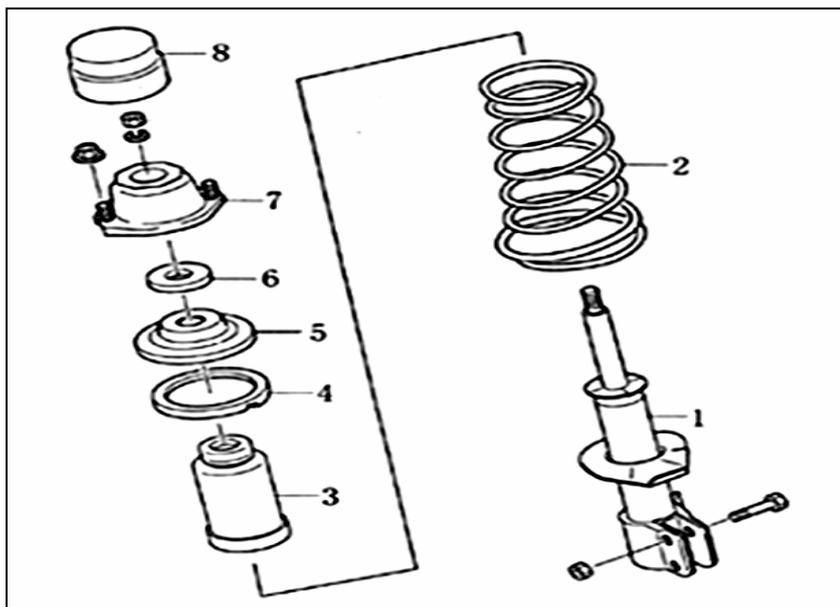
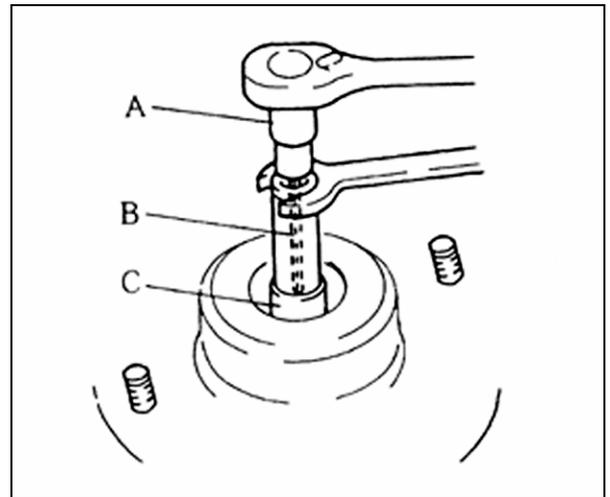

FIG.14-9
FIG .14-13
**2 STRUT ASSEMBLY (FIG.14-9)**
- (2) Loosen the self-locking nut by using the special tool (A), (B), (C)(FIG.14-13), disassemble the part according to FIG.14-9.
- (3) Assemble the parts referring to FIG.14-9.
- (4) Using the special tools, tighten nut to the specified torque. (FIG.14-13)Tighten torque:50~70N.m.
- (5) Unscrew and remove coil spring special tools (A), when unscrewing the special tools, recheck if the end of coil spring fits well with the spring seat.